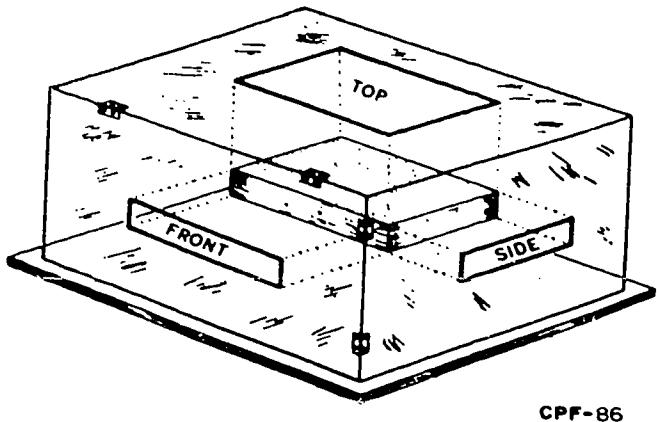
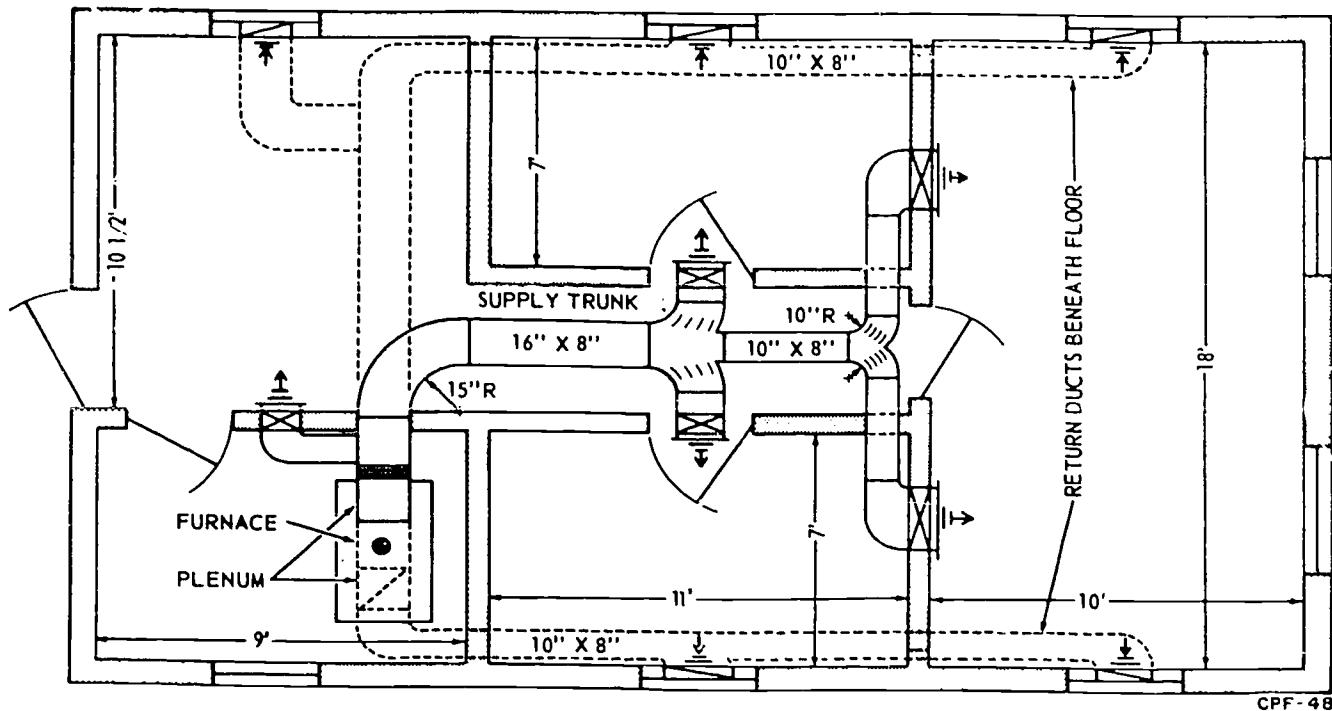
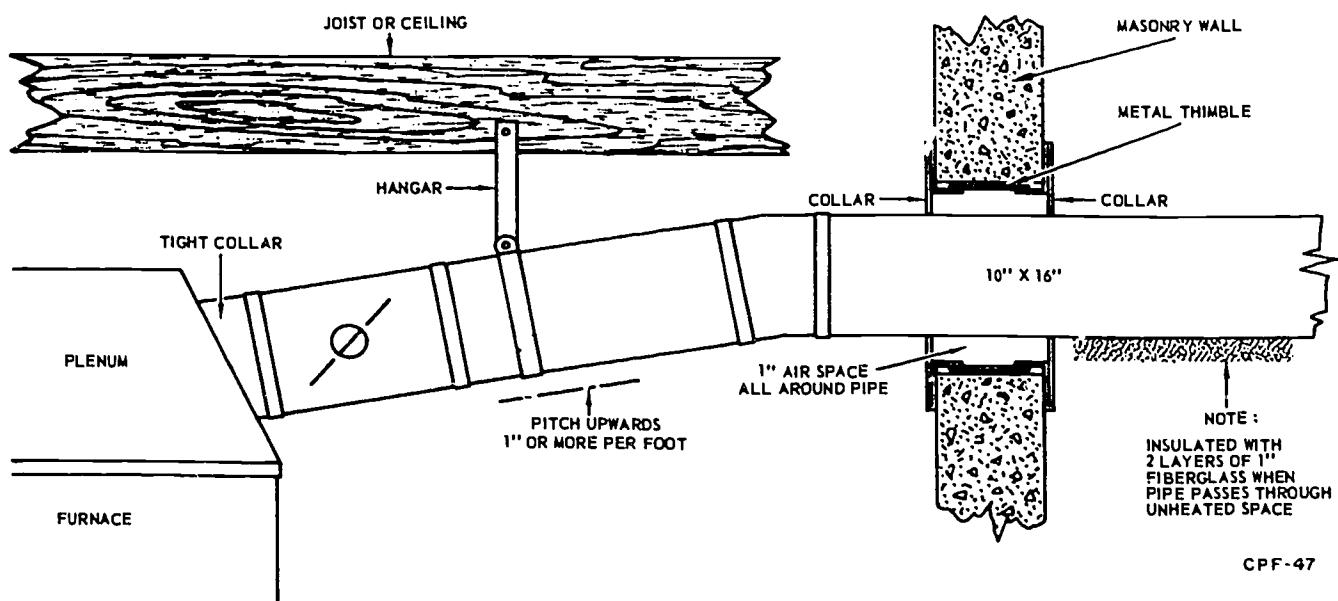

Figure 1-1. Pictorial and orthographic projection drawing.
Figure 1-3. Plan view of a duct installation.
Figure 1-4. Elevation view.
**Pictorial and Orthographic Projection Drawings.** In figure 1-1, you can see the relations of pictorial and orthographic projection drawings. A pictorial drawing is so called because it is similar to a picture.
In orthographic projection drawings, such as that illustrated in figure 1-1, three views of the object are shown. This is done to show you the three main dimensions—length, width, and thickness. The orthographic projection showing the top is called the top or plan view. It shows the part that would be seen if you were standing directly over the object and looking down at it. The orthographic projection showing the front is called the front or elevation view. It shows the part of the object that
**Plan views.** In this section, we already have mentioned plan views and have used two figures to illustrate them. In the orthographic projections shown in figures 1-1 and 1-2, the plan views show the objects as they would be seen if you were standing directly over them and looking down. This also is true of an architectural drawing, where the plan view is an overhead view of the floor plan, as shown in figure 1-3. In this plan view, you can see how a heating system is installed.
A plan view such as that illustrated in figure 1-3 includes much of the information necessary for installation of components or assemblies in a building. It shows the dimensions necessary for locating the parts with relation to other parts, and it shows room dimensions that are helpful in the various layout and installation problems. Notice, in the illustration, such information as the overall appearance of the installed duct system, the size and shape of the duct pieces, the room dimensions, the grill locations, the direction of airflow, and the location of underfloor return ducts. Now that you have looked over the drawing of the duct system, you probably are wondering about the symbols and different kinds of lines used. Later in this section, we will discuss lines and symbols; however, at this point it is more important that you learn about plan, elevation, and detail views.
**Elevation views.** In figures 1-1 and 1-2, two simple elevation views are illustrated. Now, in figure 1-4, you can see the elevation view of a furnace and supply trunk. Notice that this side view contains information that cannot be shown in a plan view. From elevation views of this type,
**Use of Dimensions.** Now that you have learned some of the dimensioning terms used on working drawings and how lines are used, let's consider how dimensions are used on working drawings. Although draftsmen do not always follow it, there is a standard procedure for placing dimensions on drawings. Learning this standard procedure will enable you to read working drawings quickly and accurately. Dimensions of rectangular ducts often are written on the working drawings, as shown in figure 1-3. Notice the section of 16" x 8" duct which is 16-inches wide and 8-inches high. If this same section of duct is shown on an elevation view, it would be marked 8" x 16".
**Scale Dimensions.** Previously, you learned how to use the architect's scale to reduce the dimensions of objects too large to be drawn full scale. Now, let's learn how to use the architect's scale to measure objects that are drawn to scale on a working drawing. For example, a working drawing such as that shown in figure 1-3 probably will be drawn  $1/4'' = 1'$  scale. By using the  $1/4$ -inch scale, you easily can determine dimensions such as the length of the duct sections and distances from the wall. If you have a working drawing of a very large building, the scale may possibly be  $1/8'' = 1'$  so that the entire structure can be shown on one drawing. However, in most architectural working drawings you use, the scale will be  $1/4'' = 1'$ . But, when written dimensions are included on the working drawing, as shown in figure 1-3, they should be followed in preference to using the architect's scale.
With a good working drawing and the knowledge of how to read and interpret it, you can develop patterns, fabricate components, and install entire heating and ventilating systems. Already in this chapter, you have learned how to read and interpret lines, views, and dimensions used on working drawings; and in figure 1-3, you noticed symbols used on the drawings. Now, let us examine the various symbols used for ducts, dampers, registers, grilles, and louvers.